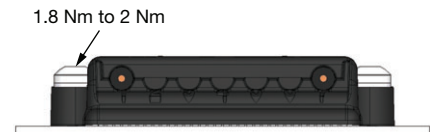

Fig. 12 - After Tightening of the First Screw
- **STEP 3:** apply a tightening torque of 1.8 Nm up to 2 Nm maximum on the first screw (e. g. the screw on the right has been tightened as described in Fig. 12).